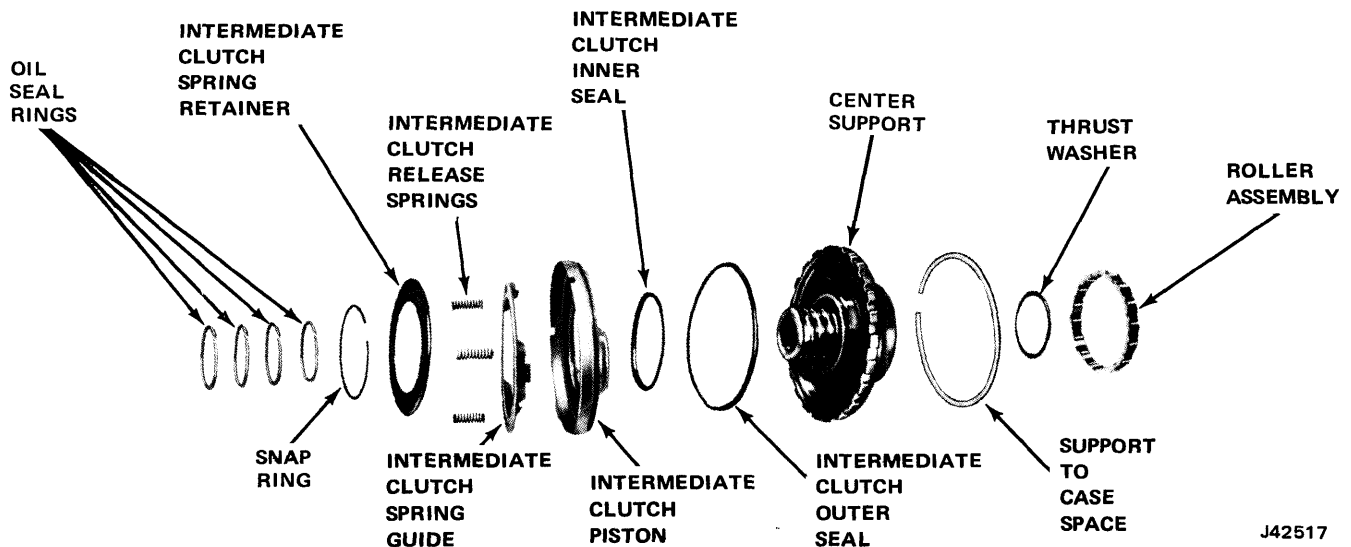

Fig. 7-93 Center Support Components
- (1) Remove four oil seal rings (fig. 7-93).
(2) Compress spring retainer to center support assembly, remove snap ring, and carefully release pressure on spring retainer.
(3) Remove spring retainer, three release springs, intermediate clutch spring guide and piston.
(4) Remove inner and outer seals from intermediate clutch piston.